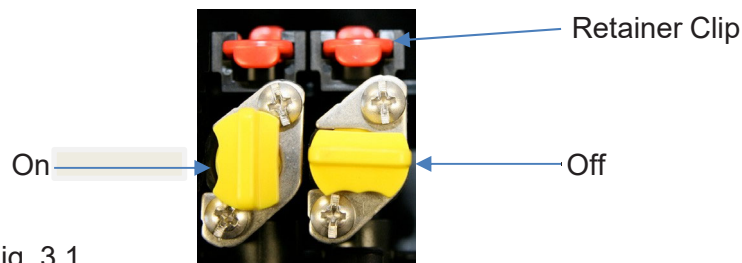

Fig. 3.1
- I. Turn on water and syrup to flow controls by rotating yellow Shut-off knobs (see Fig. 3.1) and check for leaks.
- A. To adjust water flow rate, turn off syrup side by rotating the yellow shut-off (see Fig. 3.1), then push lever to purge any remaining concentrate until clear liquid is dispensed. Capture water in a graduated cylinder (oz.) or measuring cup while timing the dispense. To calculate flow rate divide the volume (oz.) of water by the time.
- Check Shut-off (if open), see Fig. 3.1
- Check Shut-off (is it open), See Fig. 3.1